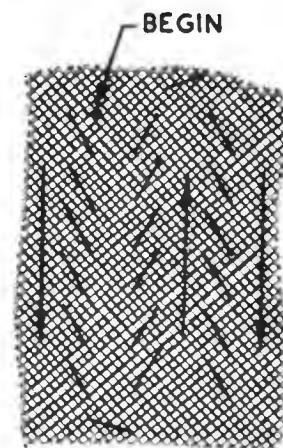

Fig. 75. Pad stitching.
- D. On the inside of the garment, the stitches are vertical rows of diagonal stitches and on the wrong side they are very faint pricks or none at all show (Fig. 75).